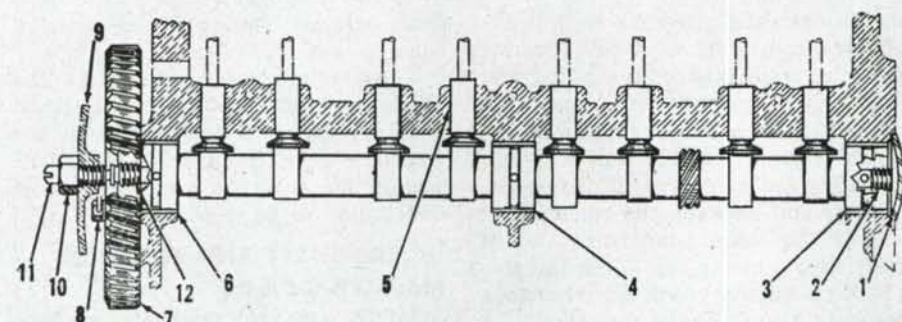

Fig. AC35—Models WC, WD, WD45 and WF camshaft installation. Camshaft rotates on three renewable split type bushings.
87. To remove camshaft, remove timing gear cover, flywheel cover, oil pan and oil pump. Remove cylinder head cover, rocker arms assembly and push rods and remove cam gear from camshaft. Hold tappets up to clear cams and withdraw camshaft. When reinstalling camshaft, be sure oil passages are clean. Metering hole in plug (12—Fig. AC35) is discontinued in later WD and all WD45 models which have a solid plug. Adjust camshaft end play after timing gear cover has been installed, by loosening locknut,